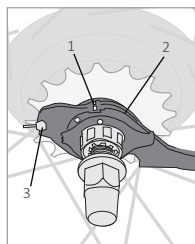

FIGURE 3.15
2. Check the indicator on the rear-hub pulley (Figure 3.15) with the cog joint bracket. If the red lines are not in alignment, turn the barrel-adjuster until they are in alignment.